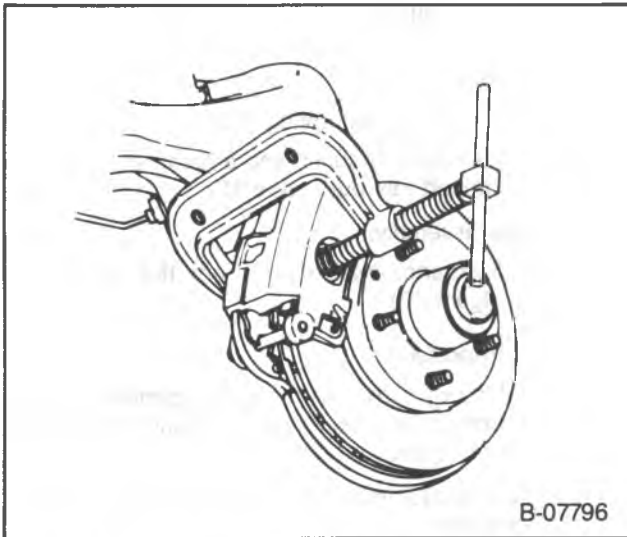

Figure 4 — Compressing the Caliper Piston
- Position a C-clamp around the outer pad and caliper and tighten until the caliper piston bottoms in its bore (figure 4).